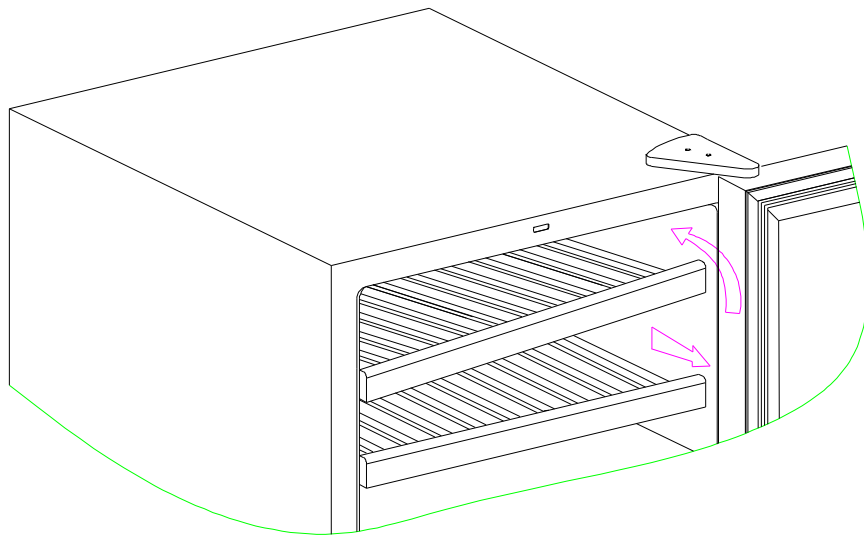

Fig.4
Statement: (Fig.4) shows the correlative diagram Fig.4
d. Pull the shelves to the bottom, circumscribe any side of the right and left, and let the setter of the shelf go out of the channel, and then draw out the shelves. (Fig.4)